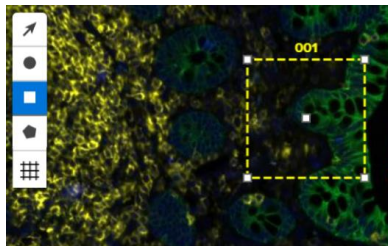

Figure 25: Scan Workspace square ROI button
1. **Select a shape button (circle or rectangle)** from the Scan Workspace (see Figure 25).